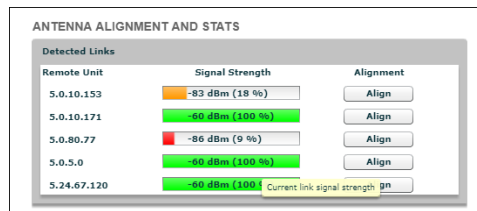

Figure 27. Configurator GUI (Antenna alignment and stats dialog)
- The **ANTENNA ALIGNMENT AND STATS** window will be shown (Figure 27 (page 82)).